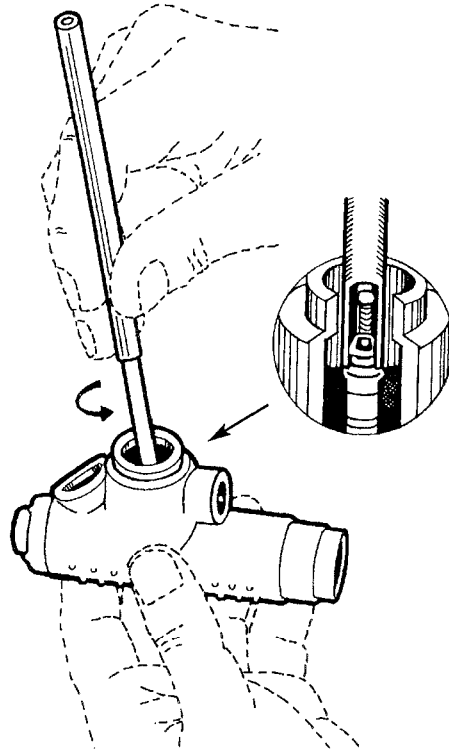

FIG. 2
12. Unscrew poppet (56) using special tool (C-2) or pliers (Fig. 2).